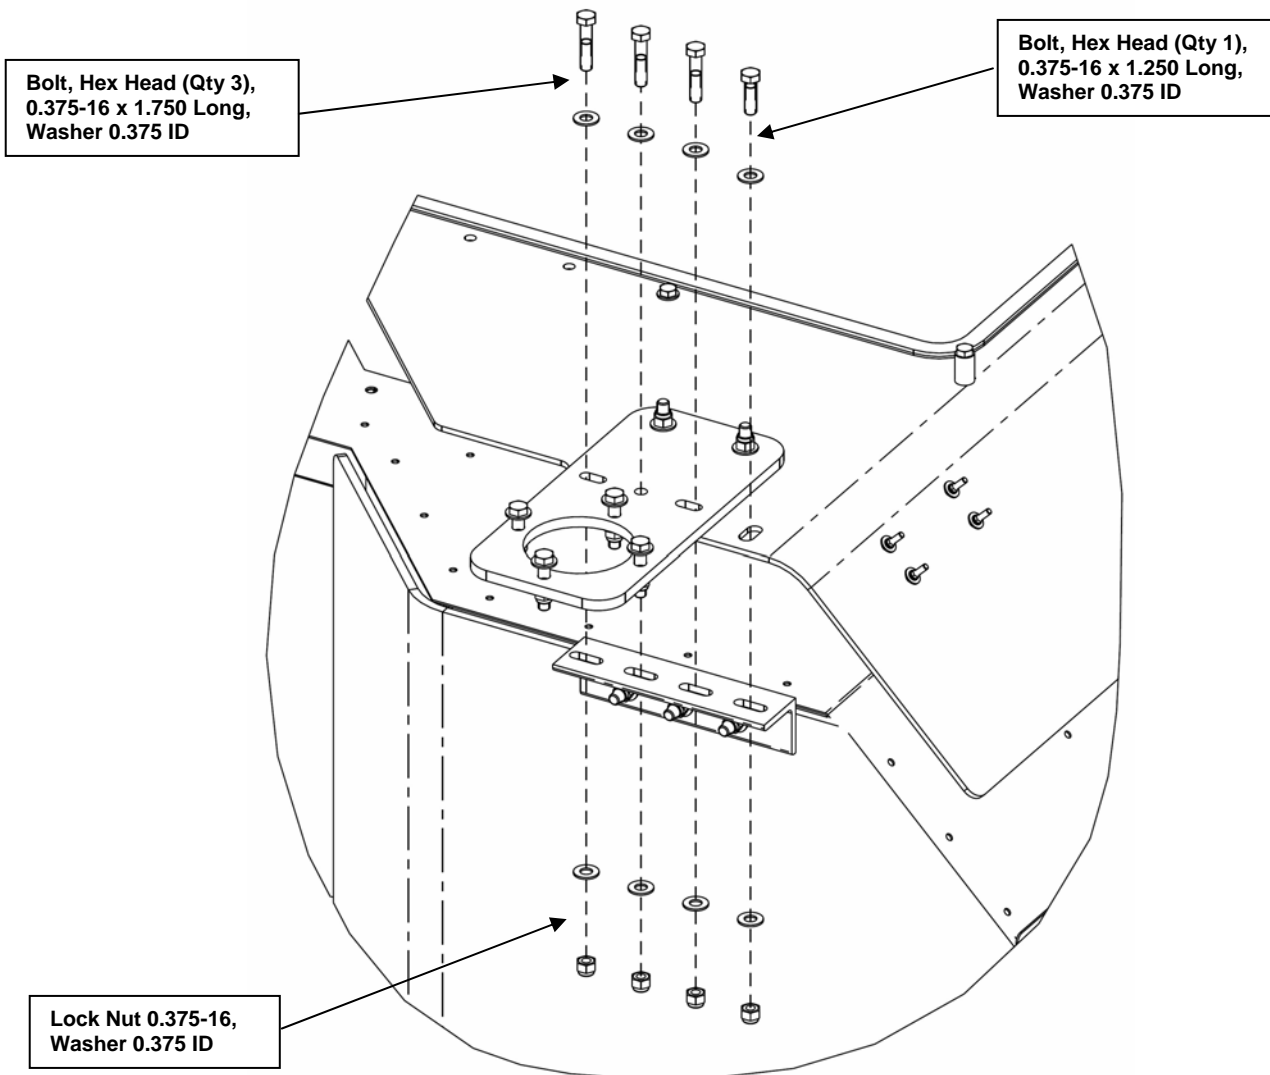

**Figure 42. Installing the Antenna Mount, Left Side.**
- h) Attach the Left Rear Panel to the roof using the hardware shown in Figure 42. Do not fully tighten the bolts at this time. Tighten the bolts such that the top of the top surface of the angled bracket is 0.00 to 0.60 in. from the bottom surface of the roof panel.